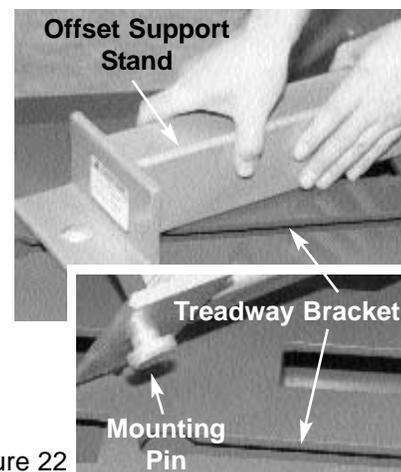
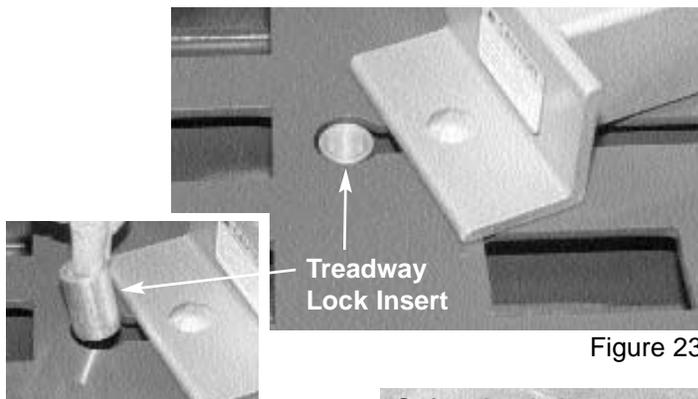

Figure 22
Figure 23
- 2) To avoid personal injury due to vehicle falling, mounting pins on offset supports must engage treadway brackets (see Figure 22 and its inset) and treadway lock inserts must be installed (see Figure 23 and its inset).